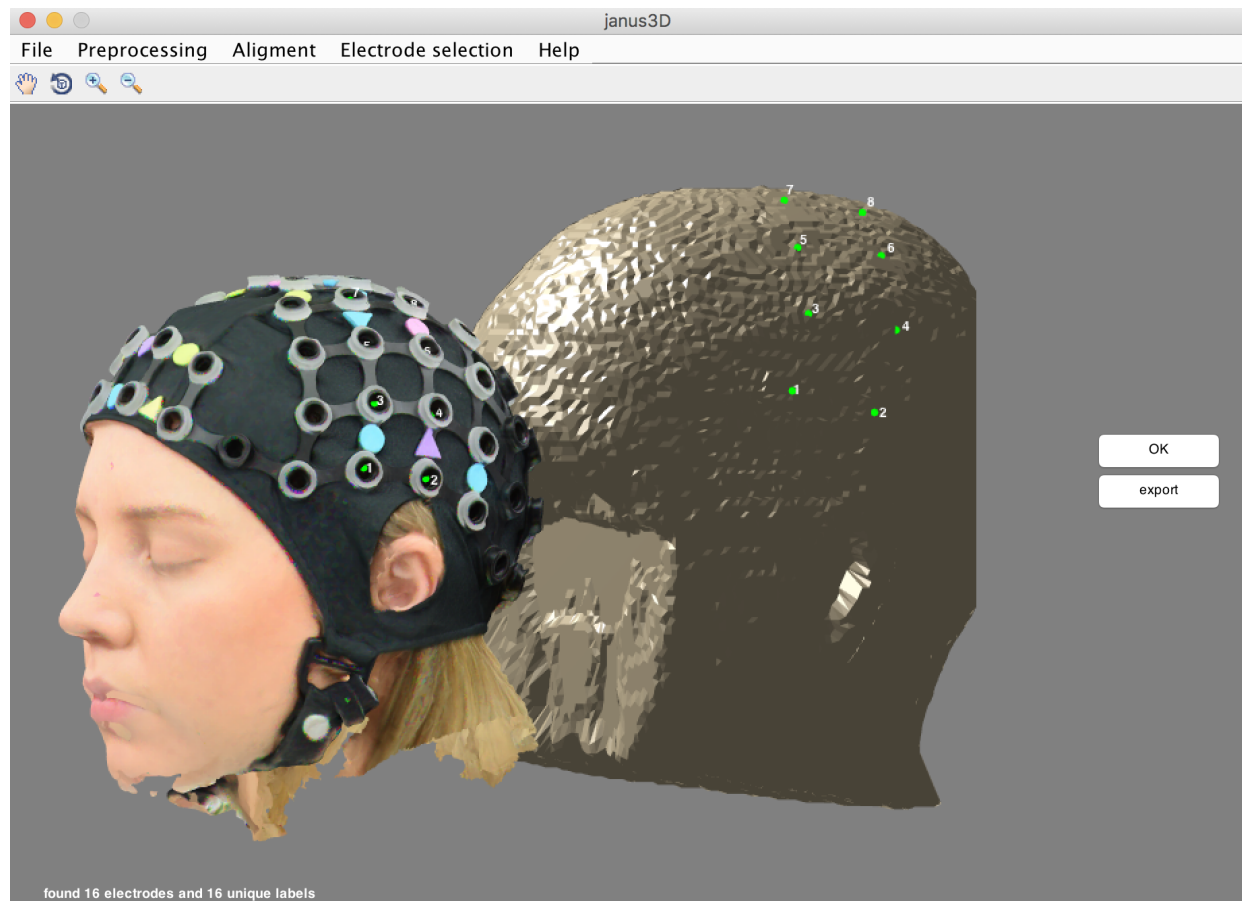

Figure 42. Final result of coregistration in janus3D
11. Choose “Electrode selection”, “Show electrodes” to view the final optode positioning (Figure 42).